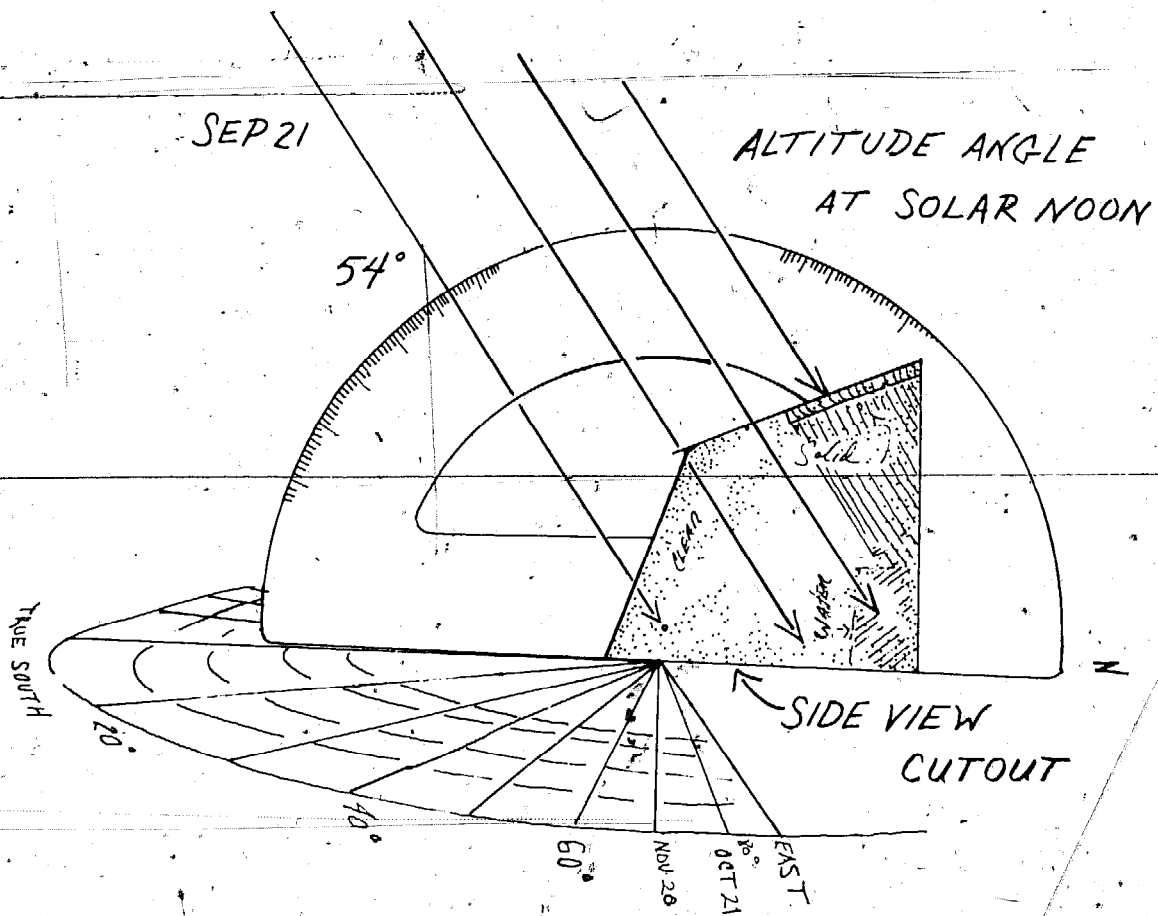

FIGURE 101
7) To better visualize the angle of incoming light, place the flat edge of a protractor across the time-of-day/sun path intersection you are studying with the middle of the protractor over the center of the chart. Take a straight edge and connect the center of the protractor to the determined solar altitude angle on the edge. That's where the sun is at in that moment of time (see Figure 101).
8) A side view of the greenhouse cut out of paper is helpful in determining light patterns through clear roof areas and sides (Figure 101). By repositioning the solid/clear areas in the model, you should be able to get maximum winter sunlight for your location and also obtain some summer shading.